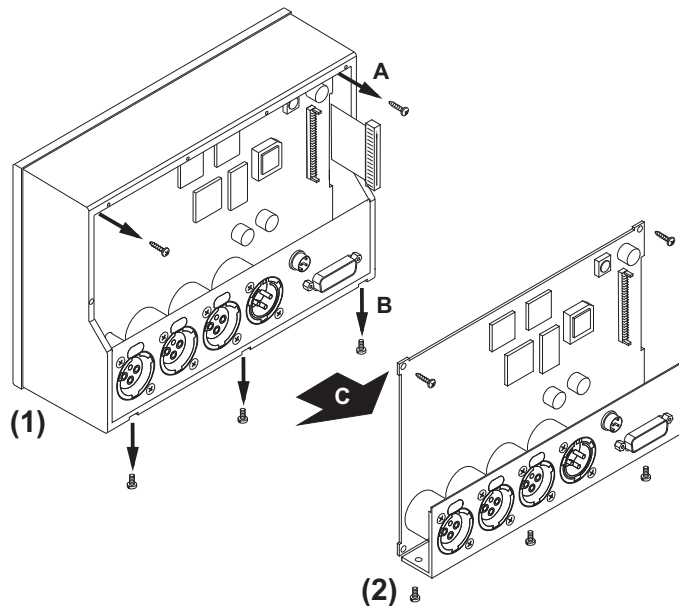

Fig. 8-5: Unscrew and removal of connector panel and main pcb
- Take out the two screws above (A) fixing the main pcb. Remove the three screws at the bottom of the PortaMonitor (B) which hold the connector panel in place. Carefully remove connector panel and main pcb (C). (fig. 8-5)